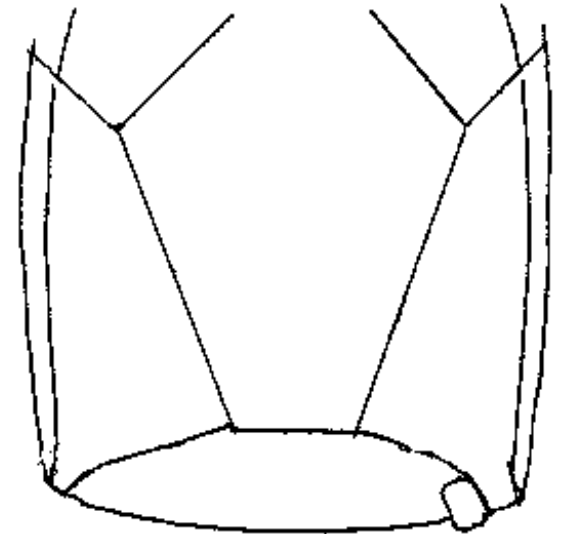

Figure 2-28
Step 32 Close the top flap protector by tucking the "tongue" underneath the flaps as shown in *Figure 2-28*.